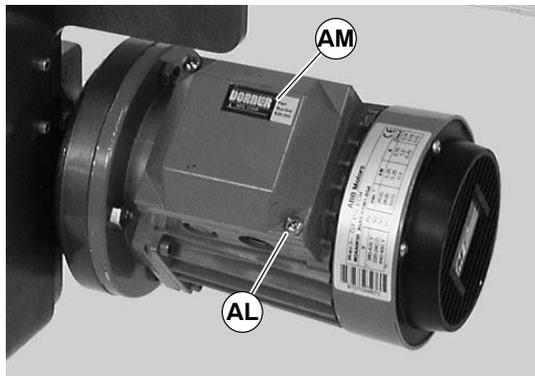

Figure 23
- a. Loosen terminal box screws (AL of Figure 23) and remove cover (AM).